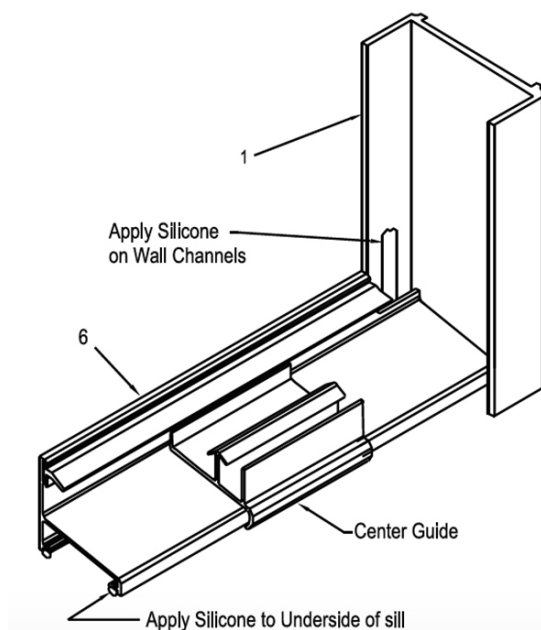

FIGURE 2
1. Set wall jambs (1) in place on walls, centering bottom of jambs on rim of tub. Hold plumb and mark walls for screw holes.
2. Remove and drill 3/16" diameter holes in walls (use a carbide tipped drill bit for tiles walls). Insert plastic wall anchors (2) into holes. Silicone where the wall meets the rim of the tub to seal the bottom of jamb. Set jambs in place and secure to the wall with #8 x 1-1/4" screws (3). Secure bottom bumper (4a) on shower head/inside side with the bottom wall jamb screw.
3. Cut sill (6) to fit opening between jambs. Run a bead of silicone full length to the underside of sill (See Figure 2) and apply silicone to inside of jamb where jamb meets tub. On the inside of jamb, run an 1/4" bead of silicone 1-1/4" up the outside leg of each wall jamb (See Figure 2). Set curb in place, then press firmly to rim of tub. Wipe off any excess silicone before curing. Use tape to hold in place until silicone sets.
4. Cut header (8) 1/32" to 1/16" less than opening width and set in place.
5. To set slider glass in place, hold inside slider inside of tub shower pan, insert rollers up into header and lower into place. The inside slider glass has only one hole for the inside pull handle (10) and will close against the wall jamb on the showerhead side. Next, insert lower end of outside slider in front of inside slider by pushing lower ends far enough in, to allow clearance on inside edge of tub or pan. Avoid roller bracket to roller bracket contact while lifting panel into place. The outside slider will close against the jamb opposite the showerhead.
6. Place center guide (7) to center position on sill (See Figure 2). Make sure the center guide is hooked into the slot position on the sill, then snap center guide to sill.